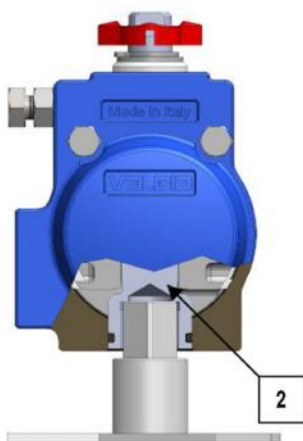
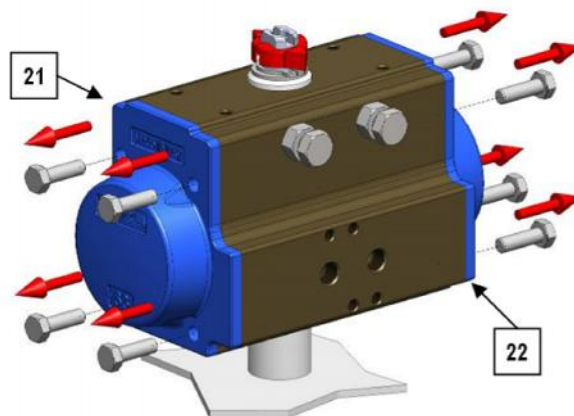

Fig.1
Fig.2
4. Place the actuator on a support with a square of the same size of the pinion ( 2 ) so as to easily execute the below listed operation (see Fig. 1);
5. Before disassembling the actuator **check** from the label on the body whether it is a double acting (DA) or spring return (SR) type;
6. For **DOUBLE ACTING ACTUATOR** : Unscrew in crossed sequence the screws ( 25 ) for fastening the end caps ( 21-22 ), see Fig. 2 ;
For **SPRING RETURN ACTUATOR** : Unscrew **GRADUALLY** in crossed sequence the screws ( 25 ) for fastening the end caps ( 21-22 ), s. fig. 2 ;